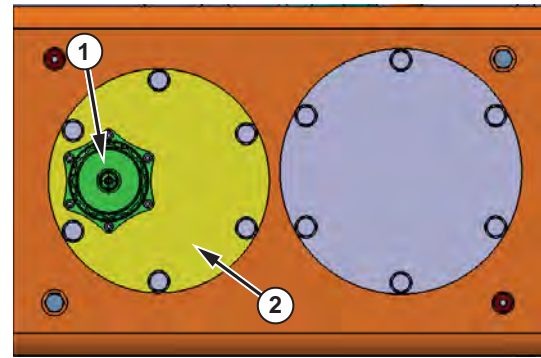

Figure 26
6. Location of air breather (1) must be as Figure 26 when assembling cover (2).